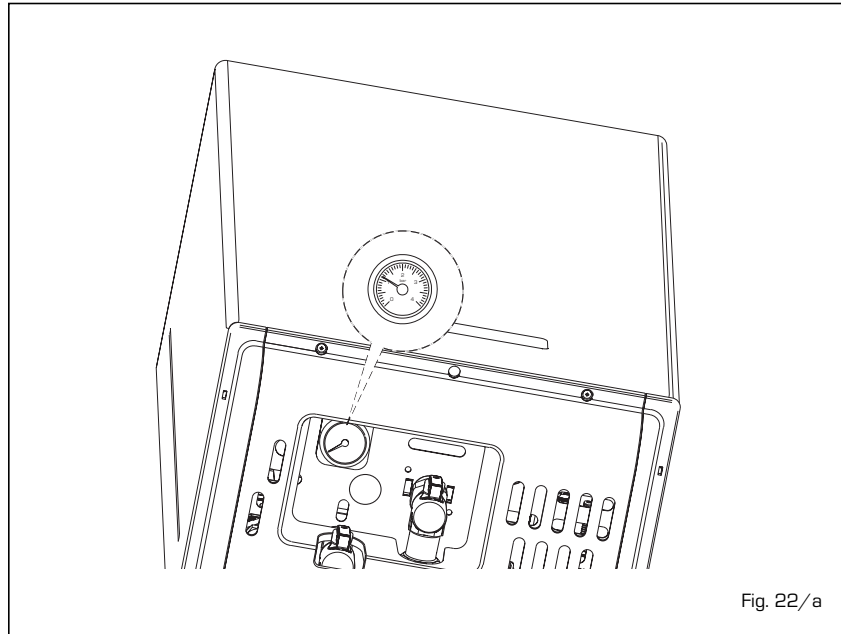

Fig. 22/a
- LOW WATER PRESSURE ERROR ALARM 02 (fig. 22/a)